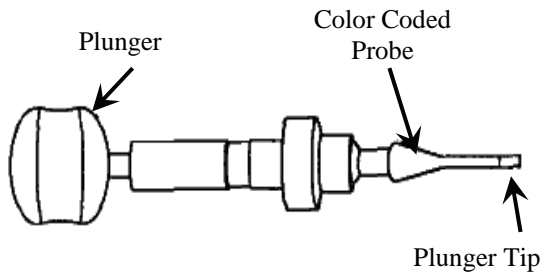

Figure 16. Unwired Contact Removal Tool
- a. Select correct unwired removal tool (Table 4, 6 or 7 and Figure 16).